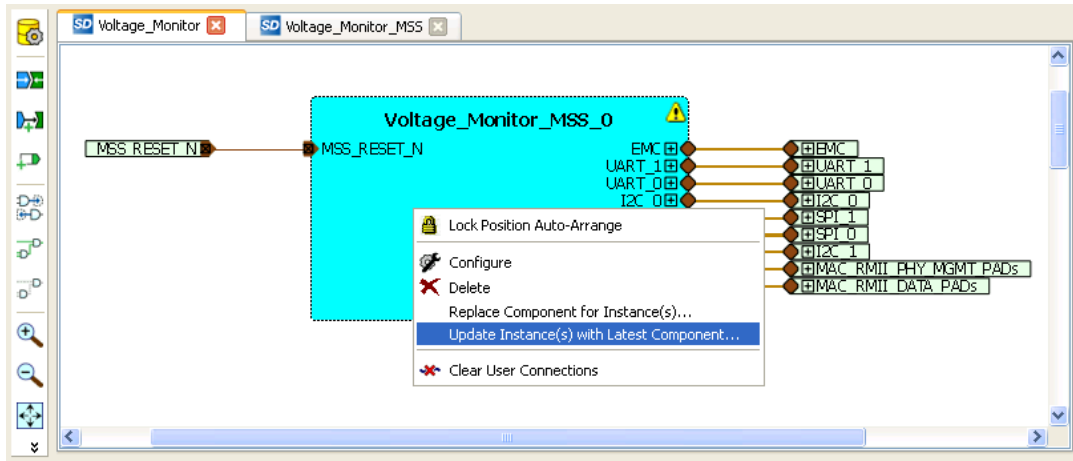

Figure 50 · Updating the MSS
1. Right-click on Voltage_Monitor_MSS_0 component on the **Voltage_Monitor** tab and select **Update Instance(s) with Latest Component** as shown in Figure 50 .